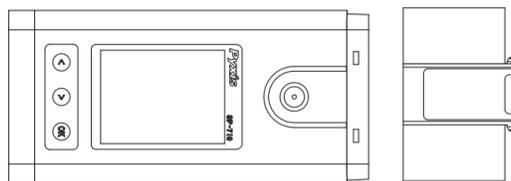

Figure 74.
6. Attach the new pH/ORP module to the main module as shown in Figure 74.